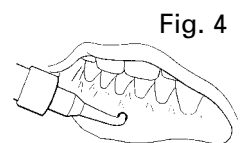

Fig. 4
5. Use a light curing device to light cure bond the Locator Denture Cap Male into the denture (Fig. 4 and 5), or mix a permanent self-curing acrylic and place a small amount in the recess of the denture and around the metal cap of the Processing Cap Male.